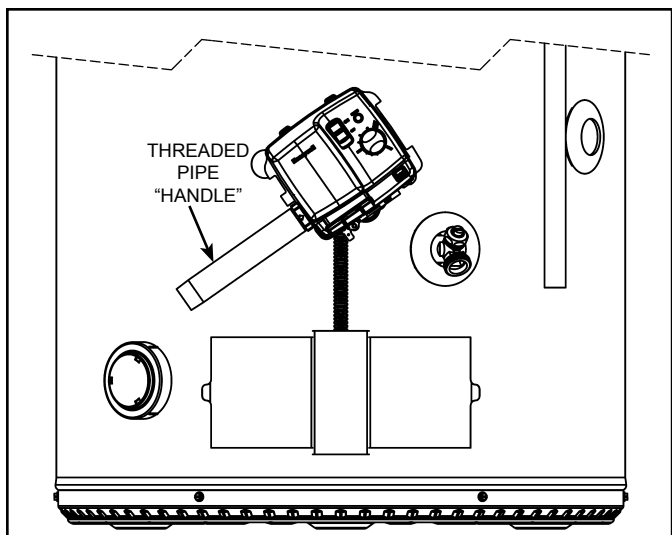

Figure 27
11. After ensuring the water heater is completely drained, thread a short length of 1/2" threaded pipe into the inlet connection of the gas control valve/thermostat and use it to turn the gas control valve/thermostat counter-clockwise to remove (see Figure 27). Do not use any type of wrench on the valve body as it may cause damage to the gas control valve/thermostat assembly.
2. Thread a short length of 1/2" threaded pipe into the inlet connection of the new gas control valve/thermostat and use it to turn the gas control valve/thermostat clockwise to tighten into place (**Note:** Do Not over tighten or damage may result, but it needs to be water tight (see Figure 27).